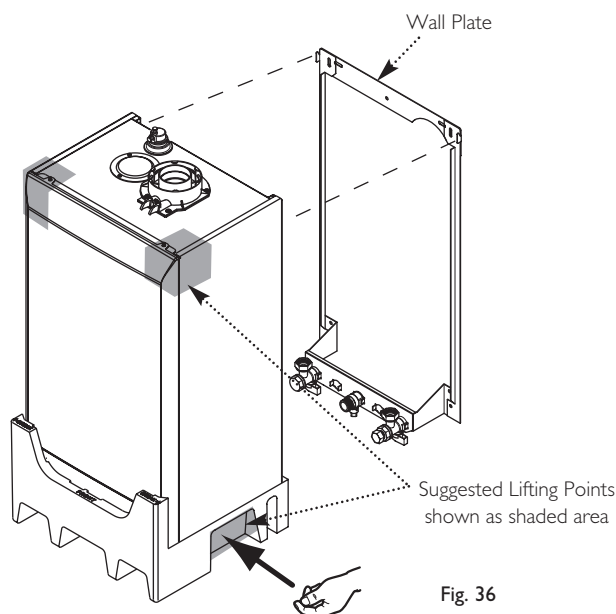

Fig. 36
1. Lift the boiler using the lower polystyrene cap. The boiler should be lifted by TWO PEOPLE. Engage the slots at the top rear of the boiler on the wall plate (Fig. 36) (see **Safe Manual Handling** page 5).